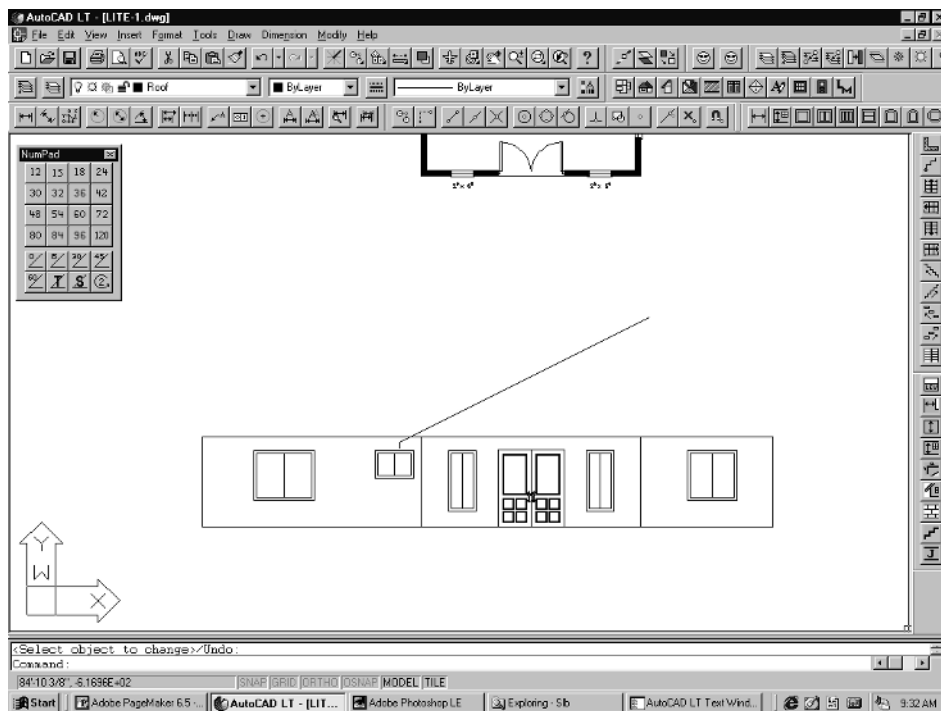

Figure 6-75
2. The roof line and fascia will be drawn. You will be prompted *<Select object to change>/Undo: @*. Just pull your cursor to the right. You will see the roof line lengthen as you pull. Pick with your left mouse button when you feel it is long enough. See Figure 6-75.